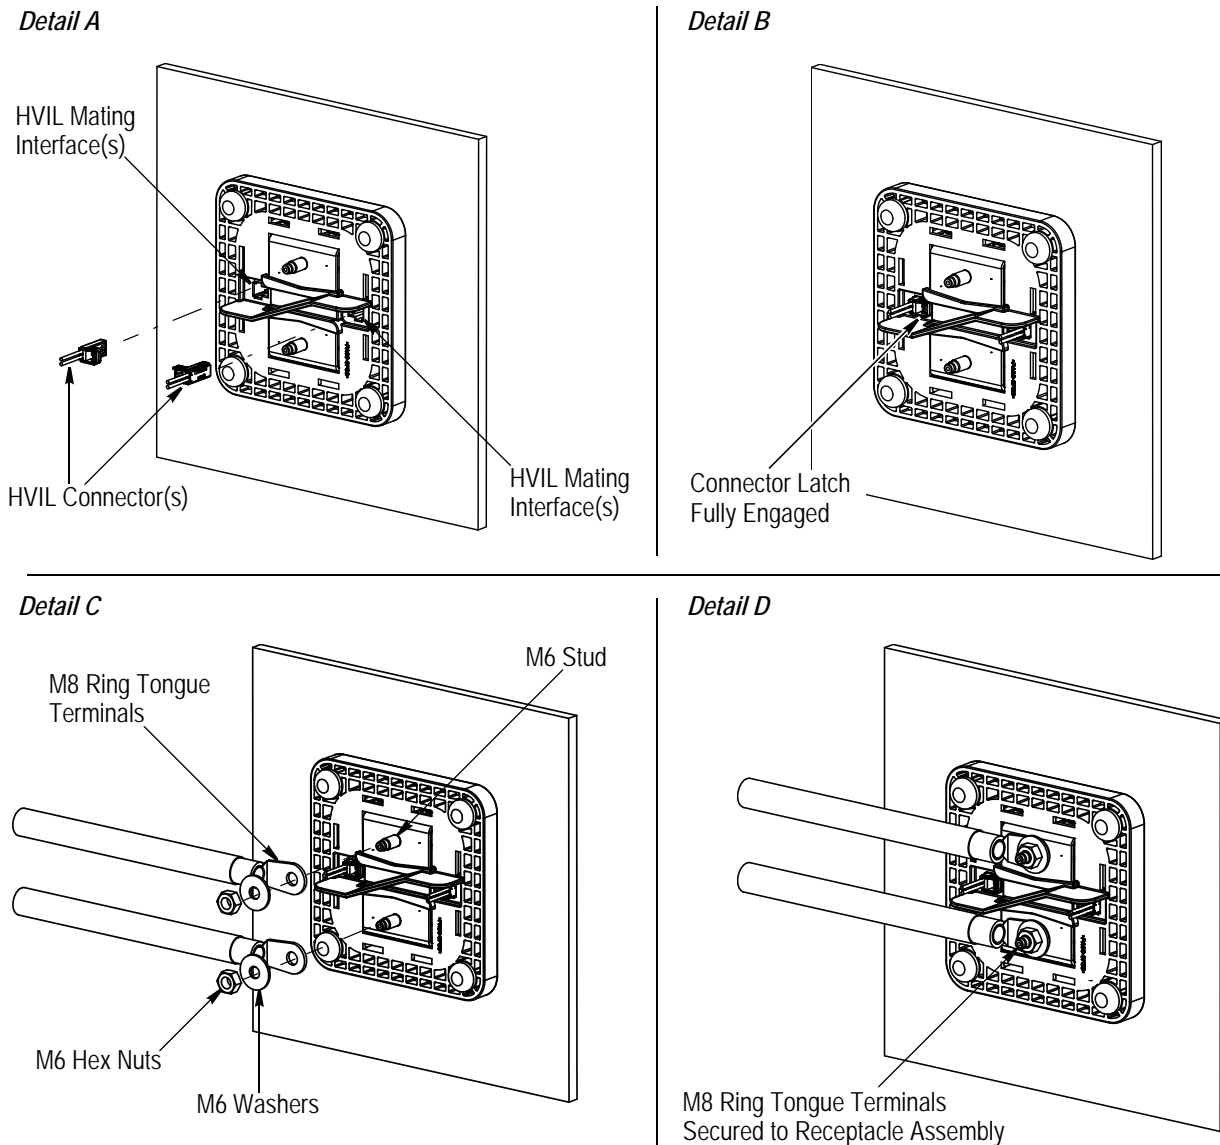

Figure 3
7. Locate and position Low Voltage HVIL Connector(s) 1534111-1 and the receptacle assembly for mating as shown in Figure 3, Detail A.
8. Manually install the HVIL connector(s) into the HVIL interface of the receptacle assembly, making sure that the connector latch is fully engaged using the “push, click, and pull” method as shown in Figure 3, Detail B.
9. Secure the ring tongue terminals of the wire connections with two standard M6 hex nuts and flat washers to the M6 studs as shown in Figure 3, Details C and D. Tighten the fasteners to a torque of 10 ± 0.5 Nm. Ensure that the device side mounting provisions and fasteners are compatible and capable of meeting the required torque value.